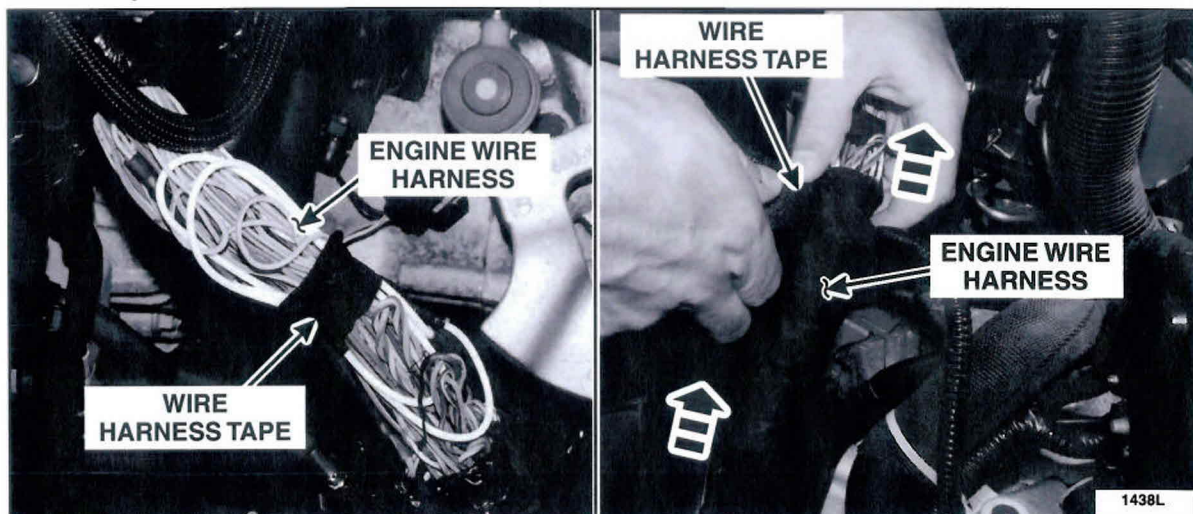

FIGURE 14
17. Bundle the wires as shown and apply wire harness tape to the harness, starting from the bottom of the previously cut harness tape and working upward until all exposed wires are covered. See Figure 14.